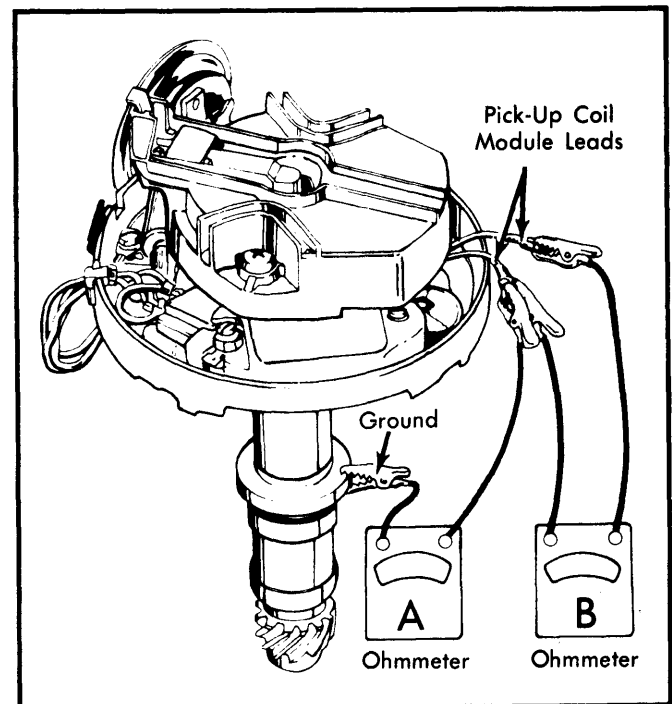

Fig. 4 Distributor Pick-Up Coil Testing Connections
Pick-up Coil – 1) Connect test stand vacuum source to vacuum advance unit. If vacuum advance unit is inoperative, replace unit. Connect ohmmeter at position "A". See Fig. 4. Set on middle scale of meter. Operate vacuum advance through range. Reading should be infinite at all times. If not, replace pick-up coil.
2) Connect ohmmeter at position "B". See Fig. 4. Again use middle scale. Operate vacuum advance through range. Ohmmeter should read 500-1500 ohms in all advance positions. If readings are not as specified, replace pick-up coil.